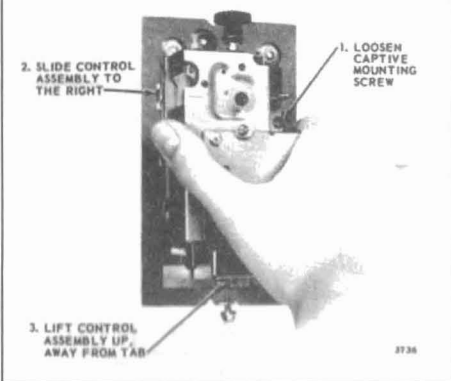

Fig. 2-Mounting the controller on the backplate.
2. Remove the mounting plate from the controller assembly as shown in Fig. 2.
2. Attach the H600A to the mounting plate by slipping it under the tabs (Fig. 2) and tightening the captive mounting screw.